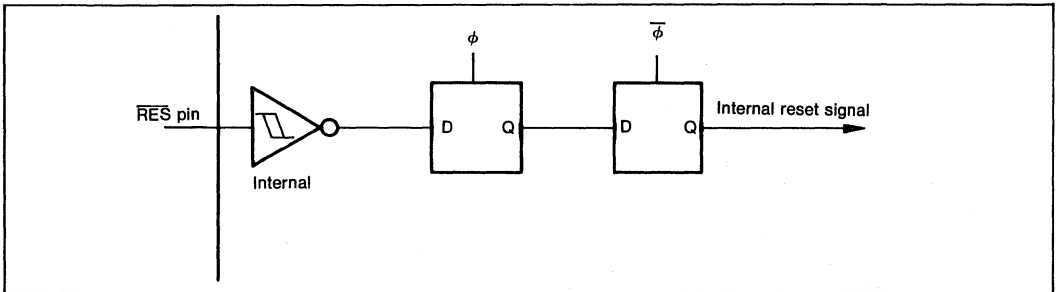

Figure III-12. Reset Circuit
**Answer:** Yes (figure III-12).
**Answer:** No, because  $\overline{\text{RES}}$  is provided with a Schmitt trigger circuit (figure III-12).